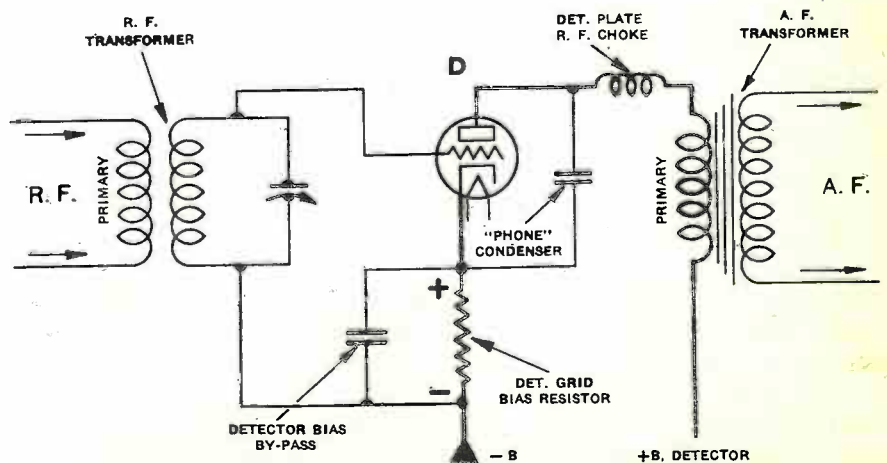

Fig. 80 - The '27 type tube using power detection and grid-bias resistor.
(5) The A.C. Detector. Both the detector methods just described were used in battery sets, but the same methods are used with the heater-type tubes in A.C. sets. Fig. 79 shows the grid condenser-and-leak method used with the type '27 tube, and Fig. 80 the grid-bias method, or plate detection. A "C" battery is seldom used in an A.C. set, as grid voltages are easily obtained from drops across resistors through which the plate current flows. Note the by-pass condenser across the bias resistor in Fig. 80.